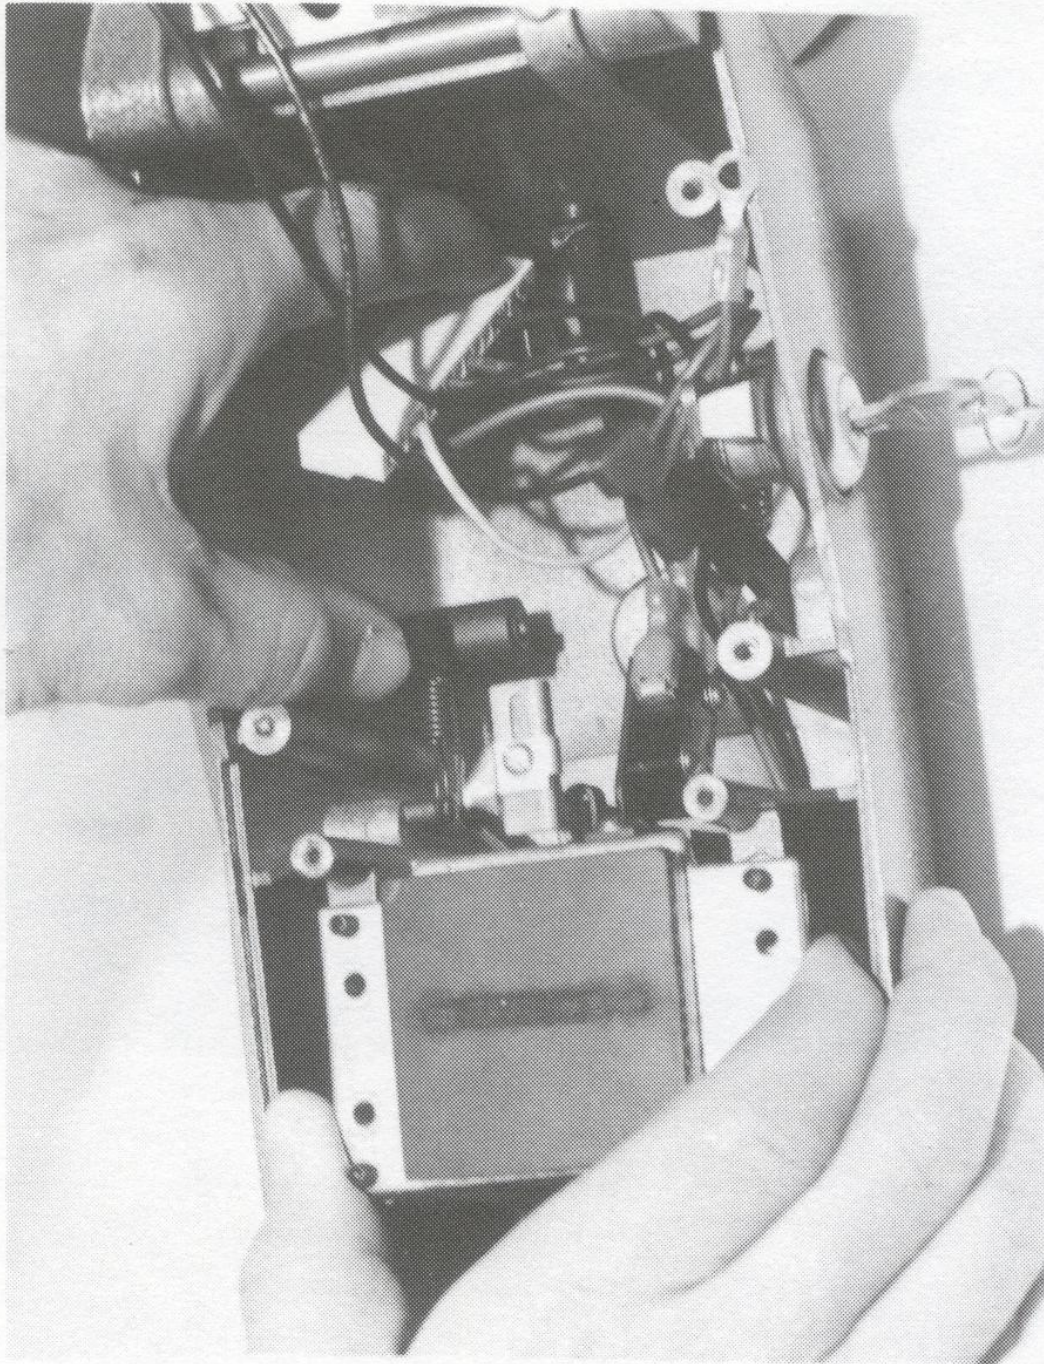

Figure 27
- Pivot ribbon feed actuator upward 3/4" to engage with printing weight (*figure 27*).